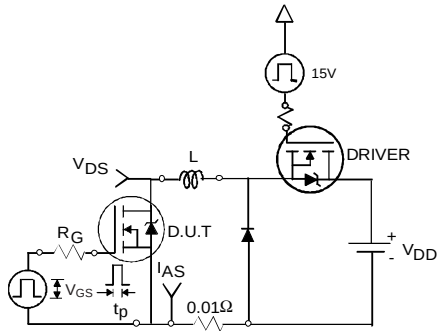

Fig 12a. Unclamped Inductive Test Circuit
3. Equation below based on circuit and waveforms shown in Figures 12a, 12b.
- ③ Pulse width $\leq 1.0ms$; duty cycle $\leq 2\%$.
- ④ C_{OSS} eff. is a fixed capacitance that gives the same charging time as C_{OSS} while V_{DS} is rising from 0 to 80% V_{DSS} .
- ⑤ Limited by T_{Jmax} , see Fig.12a, 12b, 15, 16 for typical repetitive avalanche performance.
- ⑥ This value determined from sample failure population. 100% tested to this value in production.
- ⑦ When mounted on 1" square PCB (FR-4 or G-10 Material) . For recommended footprint and soldering techniques refer to application note #AN-994
- ⑧ R_θ is measured at T_J approximately $90^\circ C$